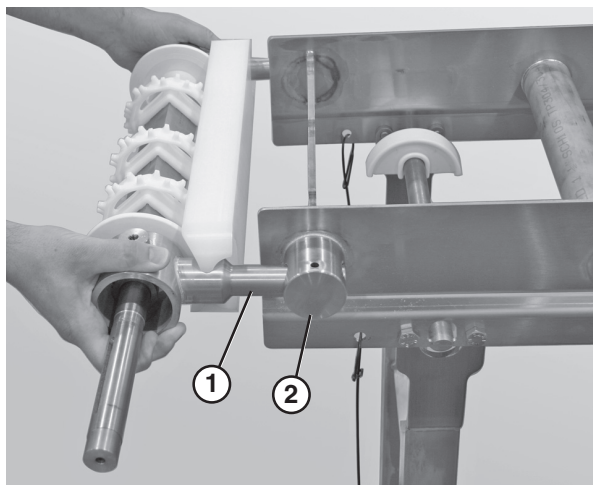

Figure 13
1. Slide the bearing shafts (Figure 13, item 1) into the take up blocks (Figure 13, item 2).